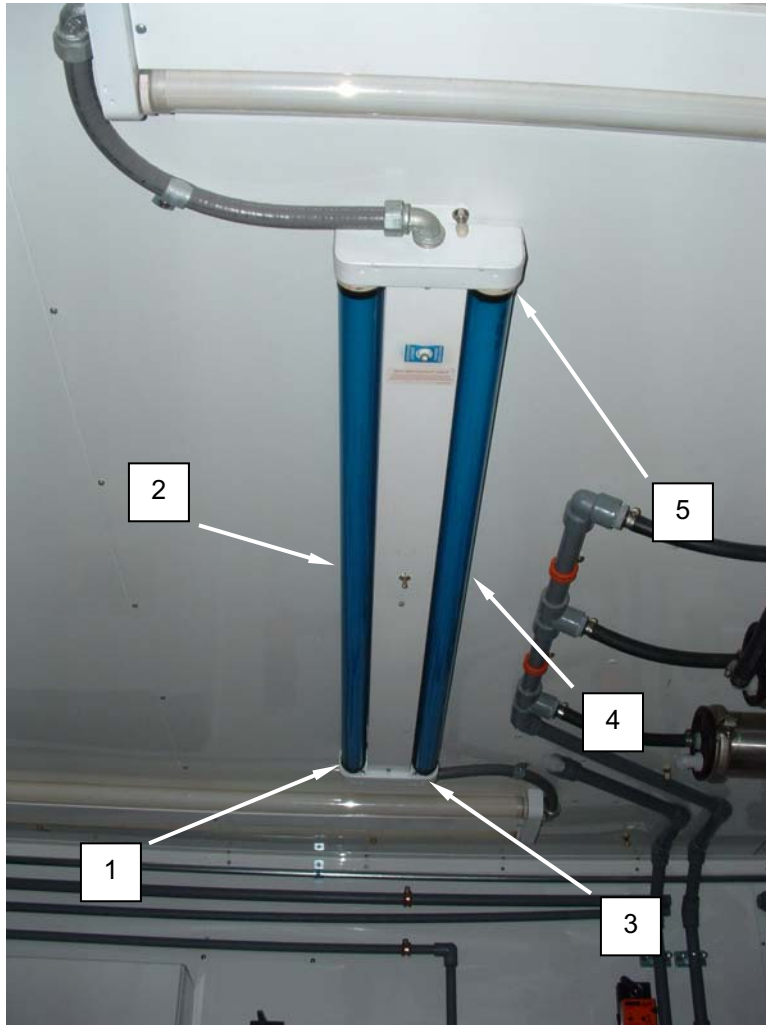

Figure 1. Replace Fluorescent Light Bulbs.
5. Install end caps (**Figure 1, Item 5**) over the protective sleeve (**Figure 1, Item 4**).
The end caps (**Figure 1, item 5**) fit semi-loosely in the sleeve (**Figure 1, item 4**) and can fall off if the tube is not held level. Hold the tube as level as possible during installation.
6. Install tube (**Figure 1, Item 2**) into the fixture.
7. Reinstall tube keeper (**Figure 1, Item 1**).